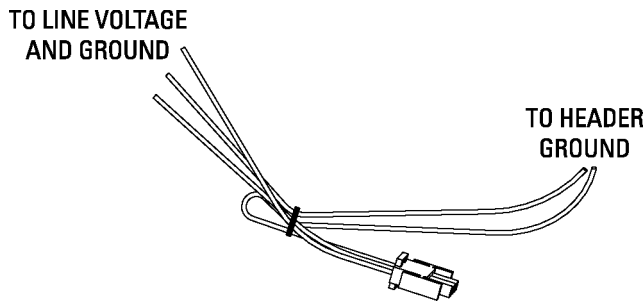

Fig. 12
3. Connect the wires to the leads on the power harness (see Fig. 12).